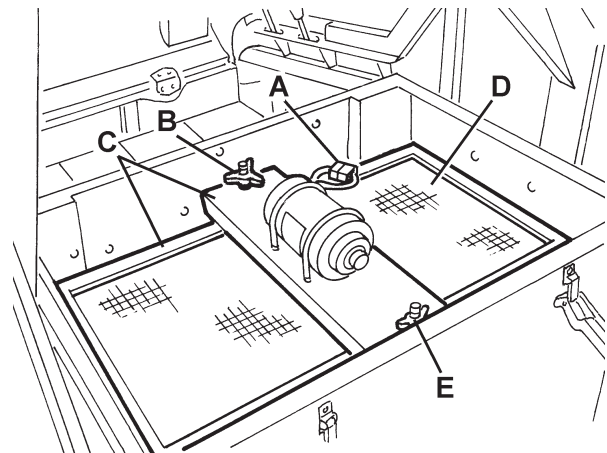

Figure 13
6. Disconnect the connector (A, Fig. 13) from the filter shaker.
7. Unscrew the knobs (B, Fig. 13) and remove the filter mounting frame (C).
8. Remove the dust filter (D, Fig. 13).